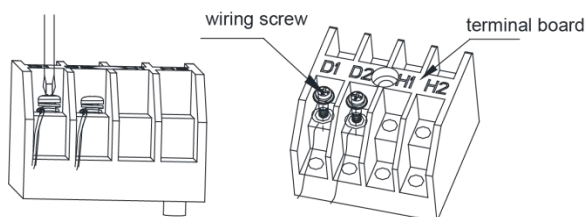
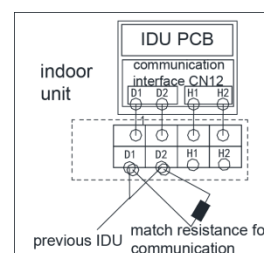

Fig.5.3.1
Fig.5.3.2
- (1) Let the Communication cable pass through the wiring through-holes.
- (2) Connect the communication wire to terminal D1 and D2 of indoor 4-bit wiring board, as shown in fig.5.3.1.
- (3) Fix the communication cable with clamp of electric box.
- (4) For more reliable communication, make sure connect the terminal resistor to the most downstream IDU of the communication bus (terminal D1 and D2), as shown in fig 5.3.2, terminal resistor is provided with each ODU.